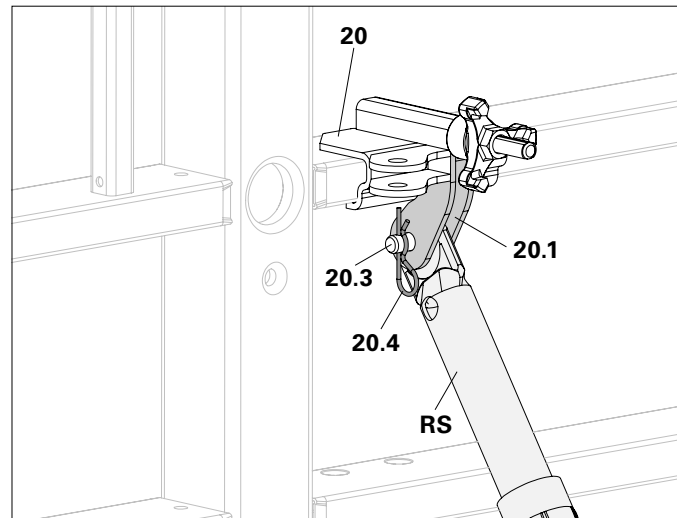

Fig. A6.01a
- Horizontal assembly of the prop connector: connect Push-Pull Prop (RS) and connection lugs (20.1) with bolts (20.3) and cotter pins (20.4). (Fig. A6.01a)